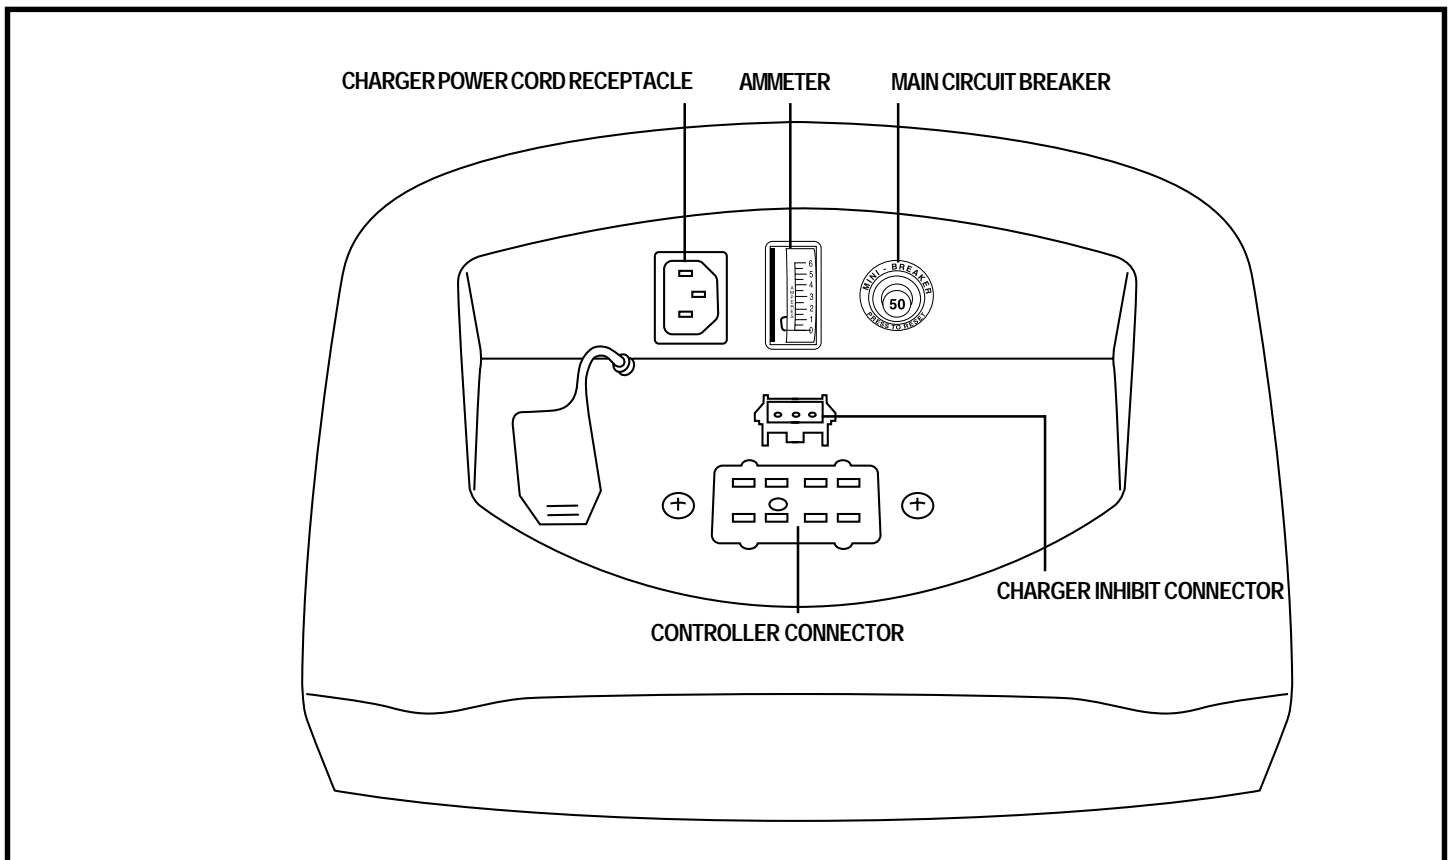

Figure 6. Electronics Tray
The electrical components are located inside the power base. The charger power cord receptacle, ammeter, main circuit breaker, controller connector, and charger inhibit connector are located on the electronics tray. See figure 6.
4. Plug the charger inhibit connector and the controller connector into the power base. See figure 6.
3. Disconnect the controller connector(s) from the power base. See figure 6.